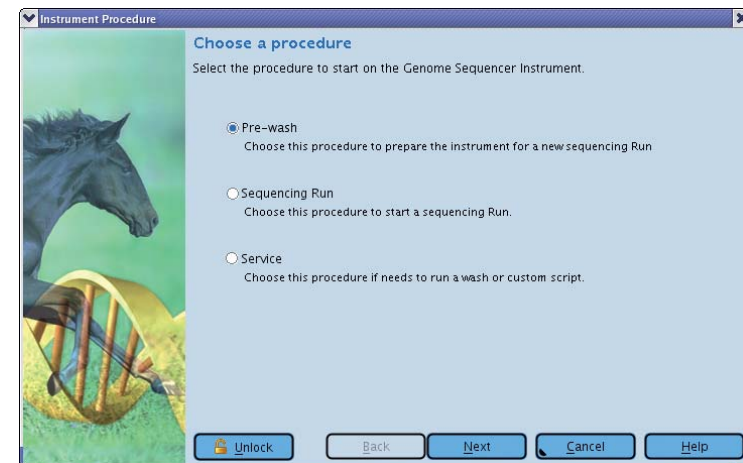

Figure 7: The Run Wizard's first window (Choose a procedure), with the Pre-wash option selected
- ▶ This opens the Run Wizard's first window: Choose a procedure (Figure 7).